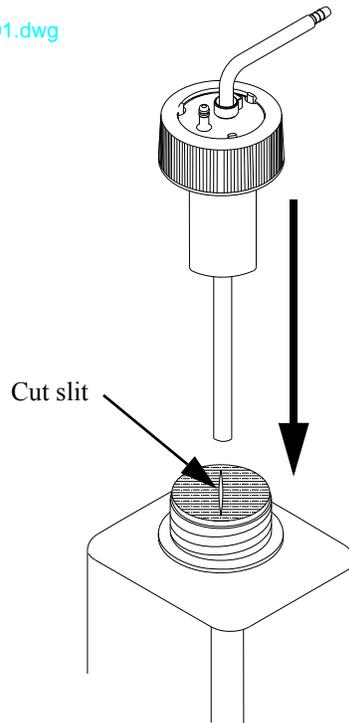

Figure 40
- Insert the cap assembly into the new bottle, see **Figure 40 on page 40**.
To minimize contamination by airborne dust and other debris, follow the procedure listed below, see *Figure 40*: